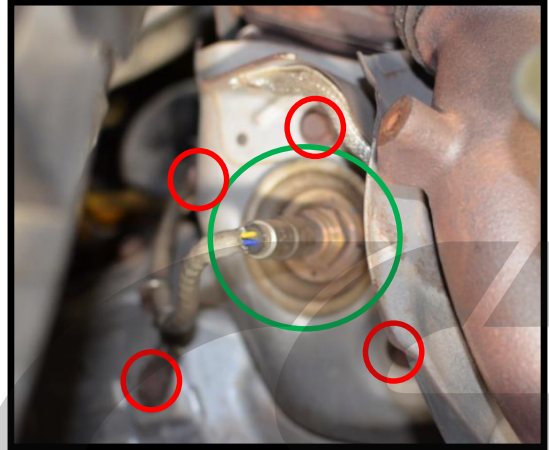

Figure 6a
a) Remove the upper oxygen sensor using an oxygen sensor socket and $\frac{1}{2}$ " drive ratchet. **Circled in green in Figure 6a.**
b) Remove the four 10mm bolts **circled in red in Figure 6a.** Then, remove the heat shield covering the downpipe nuts.